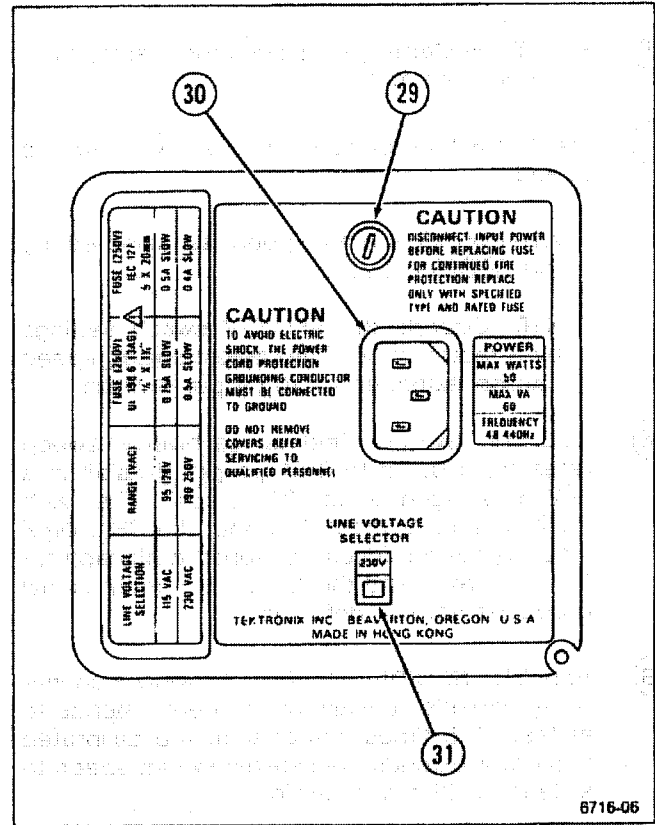

Figure 2-3. Rear Panel.
Refer to Figure 2-3 for items 29 through 31.